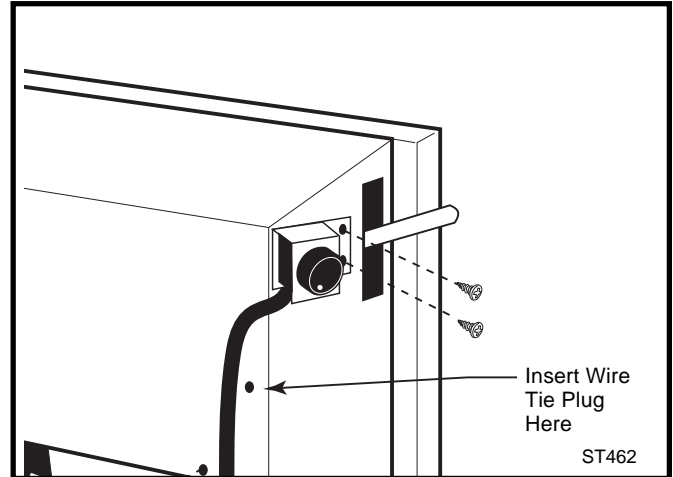

Fig. 21-2 Attach the Rheostat Switch and Wire Tie.
2. Attach the Switch Bracket to the left side of the Rear Shroud using two sheet metal screws as shown in Figure 21-2.
3. Secure the fan wire harness to the back of the Shroud using the Wire Tie plug as shown in Figure 21-2.